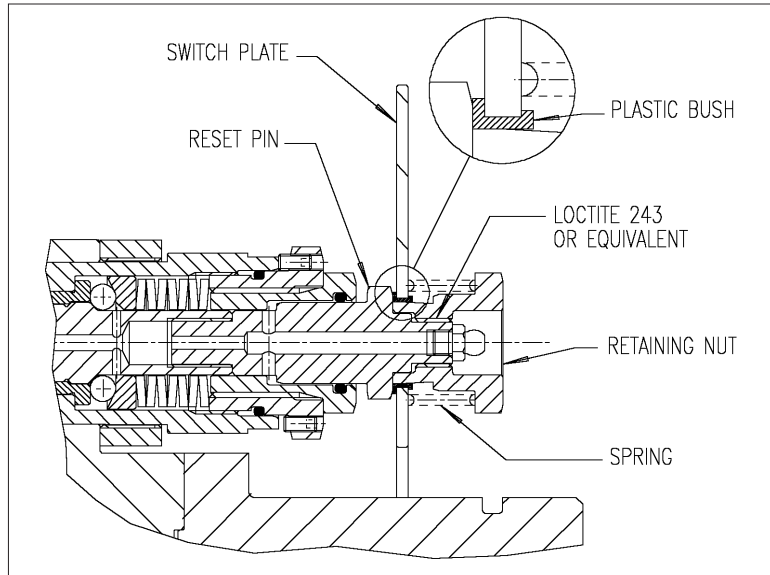

Figure 7 — Typical Switch Plate Mounting
- 3.5.3. If applicable, place the switch plate over the hub, ensuring the wide flanges of the plastic bushes are on the correct side (see assembly drawing and fig.7)
- 10.1. Some units are fitted with a limit switch plate. A typical arrangement is shown in fig.7. Refer to the specific assembly drawing for further detail. To remove the switch plate, use a spanner on the reset pin flats (behind the switch plate) to prevent rotation, and remove the retaining nuts, taking care to retain the springs and plastic bushes.